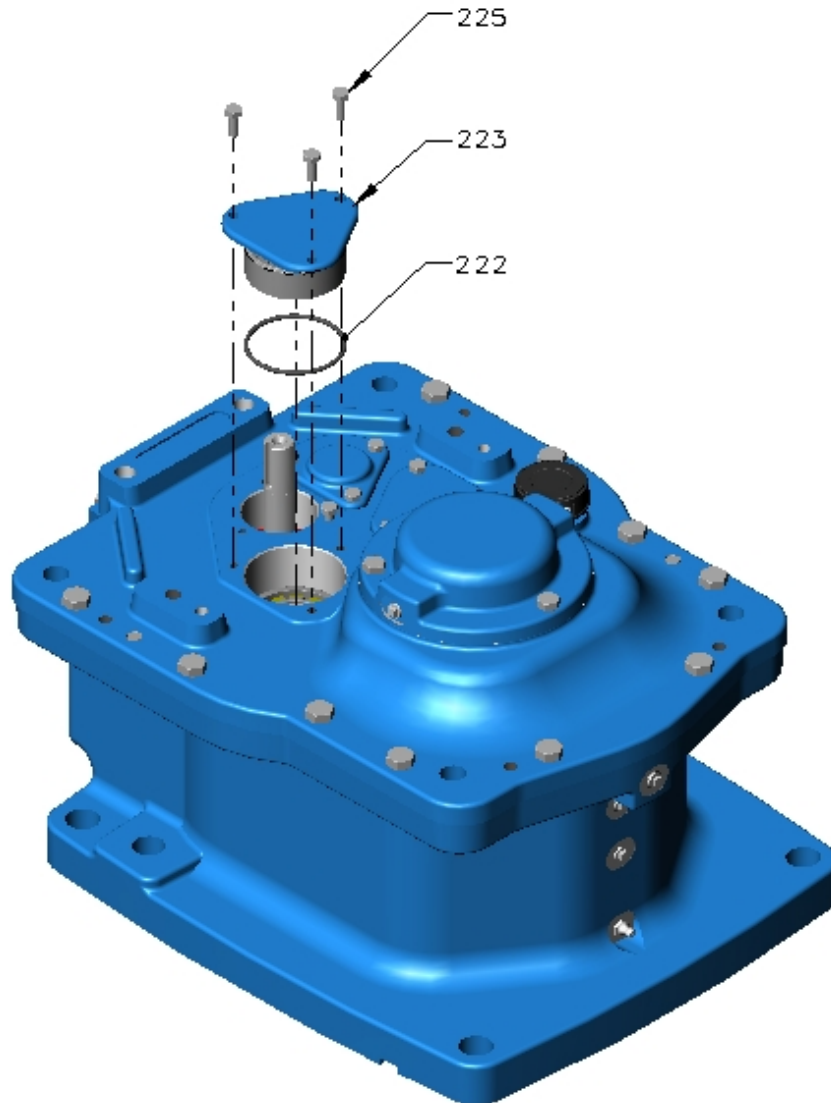

Figure 3 – Intermediate Cap
C. At intermediate shaft, remove the following items (refer Figure 3):